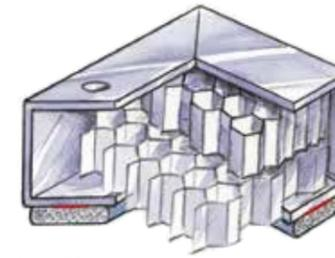

Figure 80 : Example of a cross-cell Honeycomb ventilation panel
The cell size of the honeycombs is 3.2mm and combinations of several layers is possible, even under cross constructions for higher performance. A cross cell honeycomb consists of minimal two layers of Honeycomb material stepped and rotated 90 degrees relative to each other. This results in a good shielding performance independent of the polarization of the waves. (Fig. 80)
- 86 Two layers of slanted honeycomb** placed opposite to one another also make it impossible for metal rods to be entered into the cage, and thus prevent from electrocution. (Fig. 80)